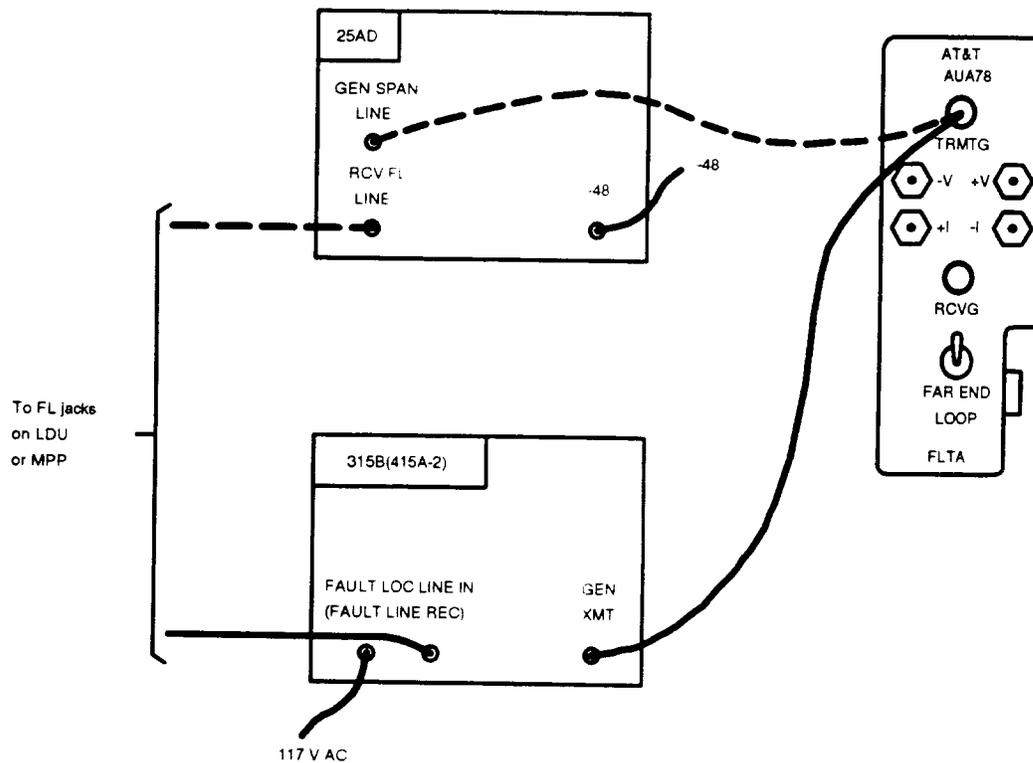

Figure 3 — Remote Terminal (RT) Fault-Locating Configuration
13. Plug power cord into **-48 V** source (Figure 3).